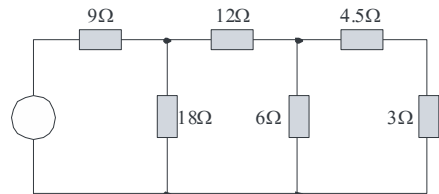

FIG. 1.148
12. Using Thevenin's theorem, determine the current in 3 ohm resistor in the network shown in fig. 1.148. What will be the value of current if this resistance is replaced by 15 ohm resistor? (Ans. $2\text{ A}, 1\text{ A}$)
14. Using Norton's theorem, determine current in 3Ω resistor of the network shown in fig. 1.148. (Ans. 2 A)